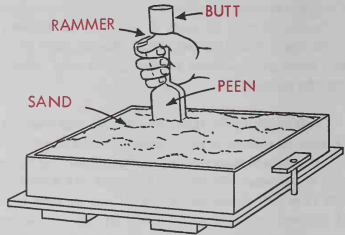

Fig. 9-6. Ramming the sand down in the drag and around the pattern.
5. Press the sand down in the drag and around the pattern with the peen end (small end) of the rammer, Fig. 9-6. The large end of the rammer is the butt. Be careful not to strike the pattern, or the edges of the drag. Ram the sand in firmly around the pattern and drag with the butt end. Properly ramming the sand is very important. If it is not rammed enough the sand may not be packed around the pattern firmly enough to give a good, sharp impression. If the sand is rammed too tightly the pores will not be large enough to allow the hot gasses formed in the mold to escape.